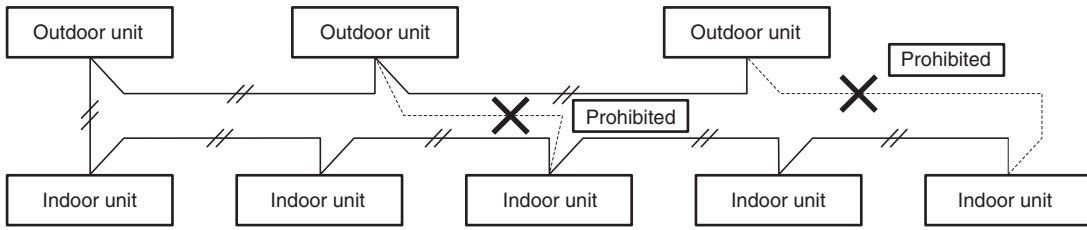

Fig. 4-3
- (1) When linking the outdoor units in a network, disconnect the terminal extended from the short plug (on the outdoor main control PCB) from all outdoor units except any one of the outdoor units. (When shipping: In shorted condition.) For a system without link (no connection wiring between outdoor units), do not remove the short plug.
- (2) Do not install the inter-unit control wiring in a way that forms a loop. (Fig. 4-3)